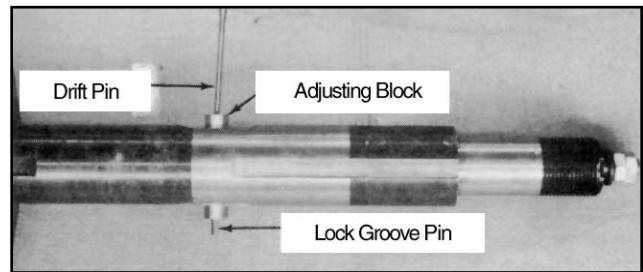

Figure 40
1. The lock roll pin is removed from the adjusting bar by driving it out of the adjusting block with a drift pin punch, Figure 40.